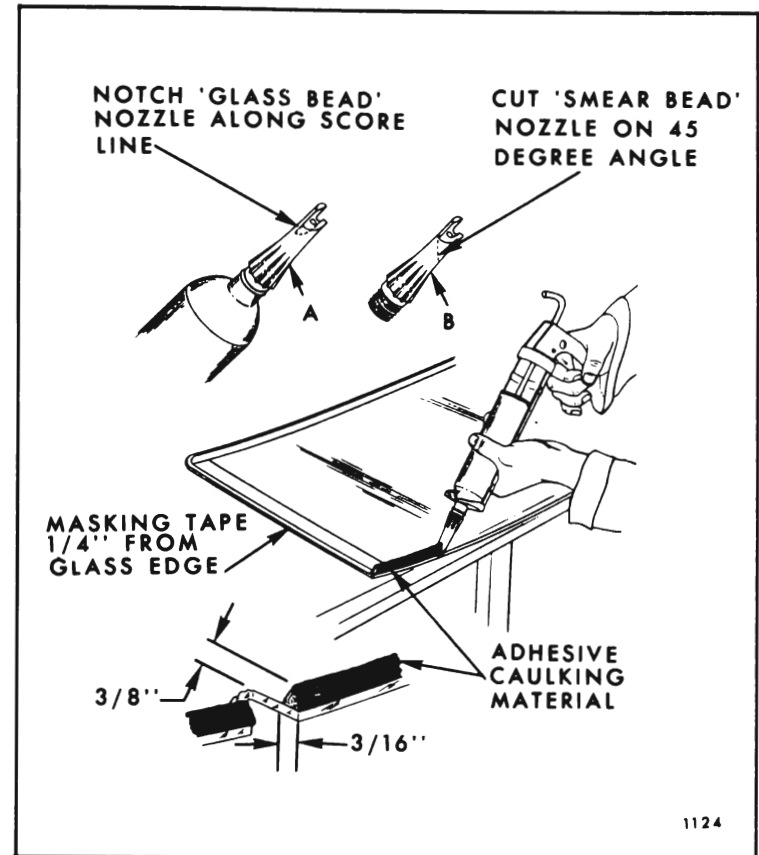

Fig. 8-24—Adhesive Caulking Material Application - Extended Method
8. Apply one inch masking tape completely around edge of glass inner surface $1/4''$ inboard from outer edge (see Fig. 8-24).
12. With caulking gun and nozzle positioned as illustrated in Figure 8-24, carefully apply a smooth continuous bead of caulking material $3/8''$ high by $3/16''$ wide at base completely around inside edge of glass.